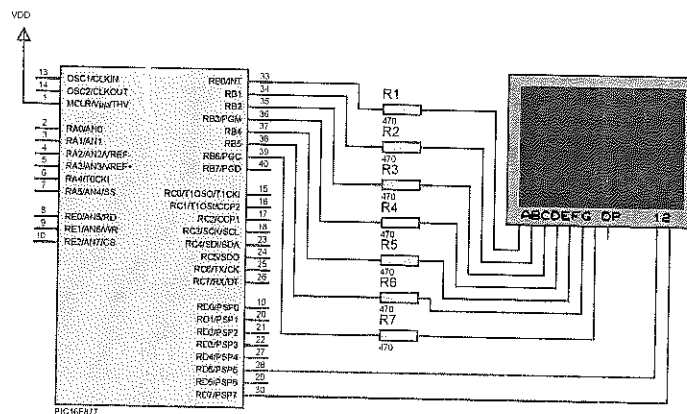

Figure 3: Schematic showing 7-segment display connection
- iii. With the aid of a schematic diagram, explain the correct way of interfacing the push button switch. (3)
- iv. A common problem when interfacing switches to the microcontroller is the switch contact bounce problem. Explain in your own words how this problem occurs? (2)
- (c) Some EEE612 students connected two common cathode 7-Segment displays to PIC16F877 microcontroller as shown in Fig. 3. The 7-segment data lines are connected to port B and the two control lines are connected to pin D5 and pin D7.